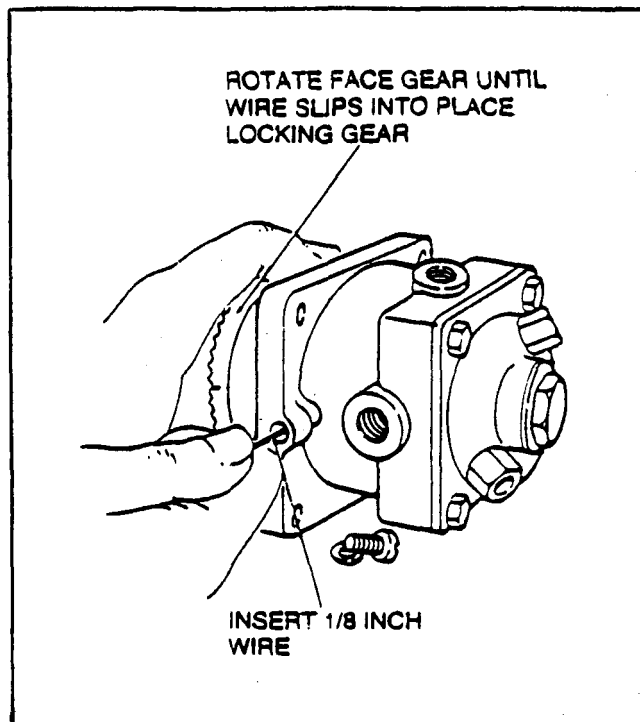

Figure 7-42. Injection Pump Installation
(2) Remove timing hole screw located on pump mounting flange (figure 7-42). Insert a 1/8 inch diameter wire into the hole.
(3) Rotate pump face gear until wire slips into place, locking the gear in position.